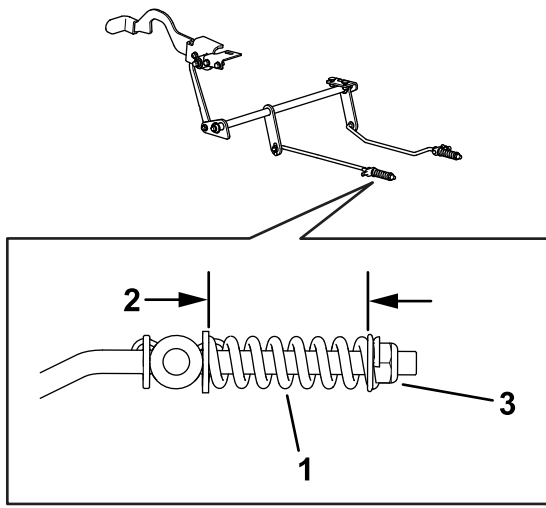

Figure 58
8. Check both spring lengths as shown in Figure 58. If an adjustment is necessary, turn the spring retention nut clockwise to shorten the spring and counterclockwise to lengthen it. Repeat step 6.